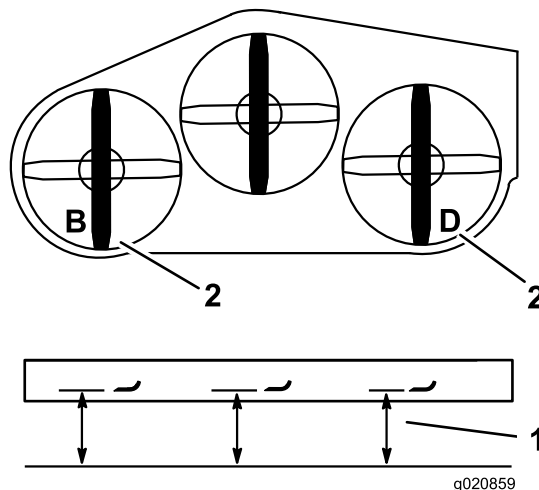

Figure 84
2. Measure the left blade at the **B** location, from a level surface to the cutting edge of the blade tip and record this measurement (Figure 84).
3. Measure the right blade at the **D** location, from a level surface to the cutting edge of the blade tip and record this measurement (Figure 84).
4. The measurement at position **B** needs to be within 3 mm (1/8 inch) of the measurement at position **D**. (Figure 84). If it is not correct, proceed to the following steps.